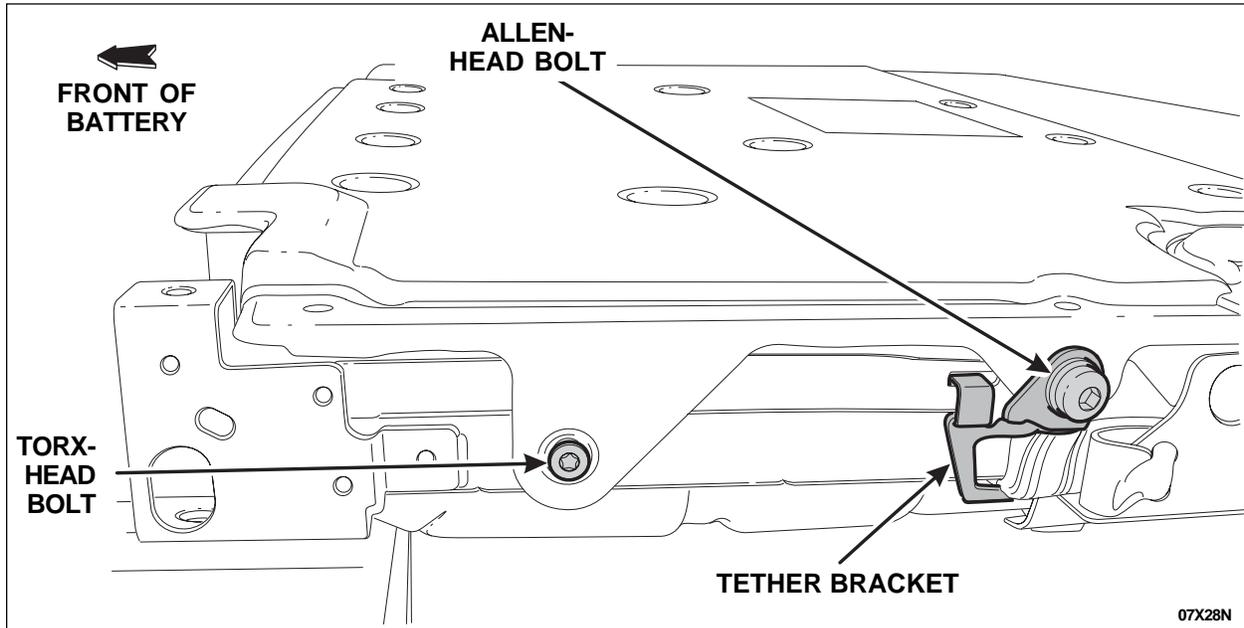

FIGURE 14
22. Install and finger-tighten the 2 Torx-head bolts and 2 Allen-head bolts (2 each side) in the side of the battery box. Make sure that the tether bracket is correctly installed. Do not tighten the bolts at this time. See Figure 14.